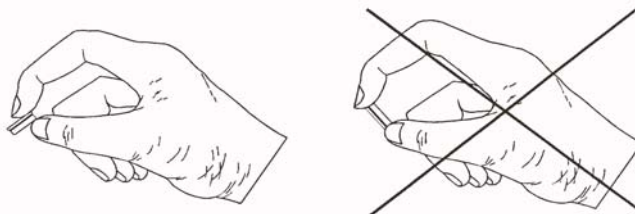

Fig. 5.5.5.B Battery manipulation
2. Open carefully the battery box cover, fig. 5.5.5.A.
3. Remove the battery from its compartment by pulling out the band (5).
4. Remove the battery (3).
Touch the battery sides only, never touch the edges, fig. 5.5.5.B. Battery can be removed / inserted by isolated tool.